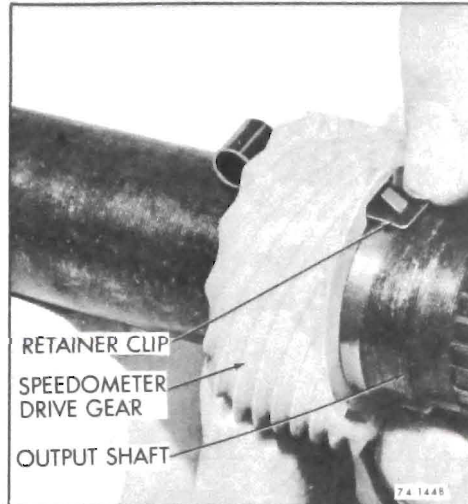

Figure 72-412 - Installing Speedometer Drive Gear
11. Install speedometer drive gear retainer clip. Align slot in speedometer drive gear with retainer clip and install. See Figure 72-412.